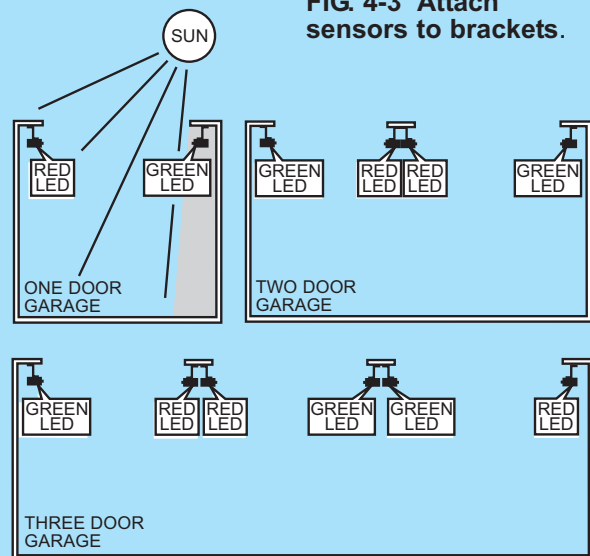

FIG. 4-4 Safe-T-Beam® source and sensor locations.
- Determine which side of garage receives most direct sunlight (Fig. 4-4).
- Red LED should always be on sunny side whenever possible (Fig. 4-4).
- Place source and sensor modules on adjacent doors facing in opposite directions (Fig. 4-4).